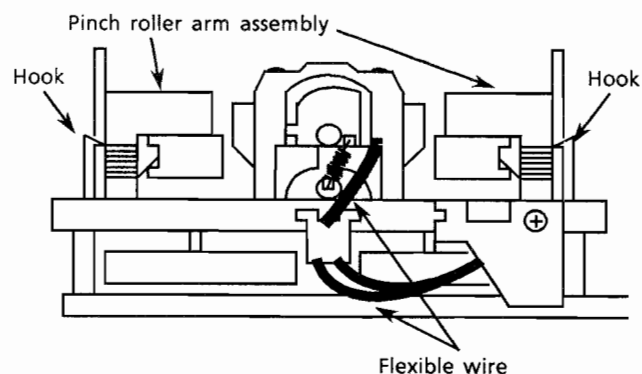

Figure12 Bottom view of the cassette mechanism
1. Release the hooks holding the assembly to remove it (Figure 12).